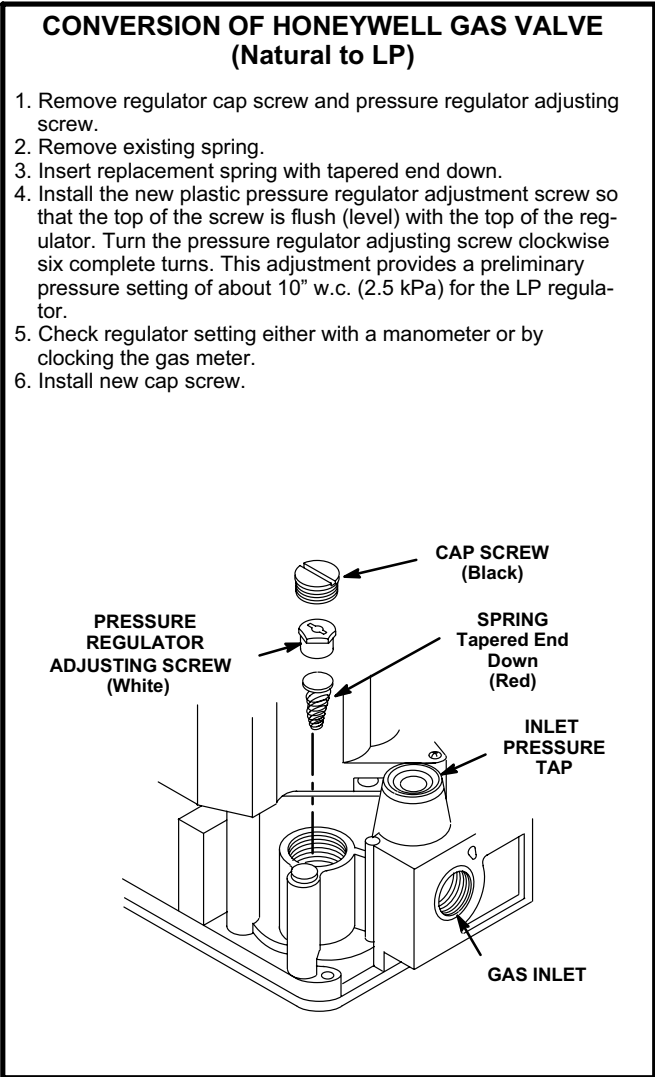

FIGURE 2
5 - Install gas valve conversion kit. Refer to manufacturer's instruction packed in valve conversion kit. See figures 2 and 3.
- 2 - After gas line pressure has been checked and adjusted, check manifold pressure at the pressure tap on the outlet side of the gas valve. The correct manifold pressure for LP/propane gas is given in table 1. Refer to figures 2 and 3 for gas manifold pressure adjustment screw location.